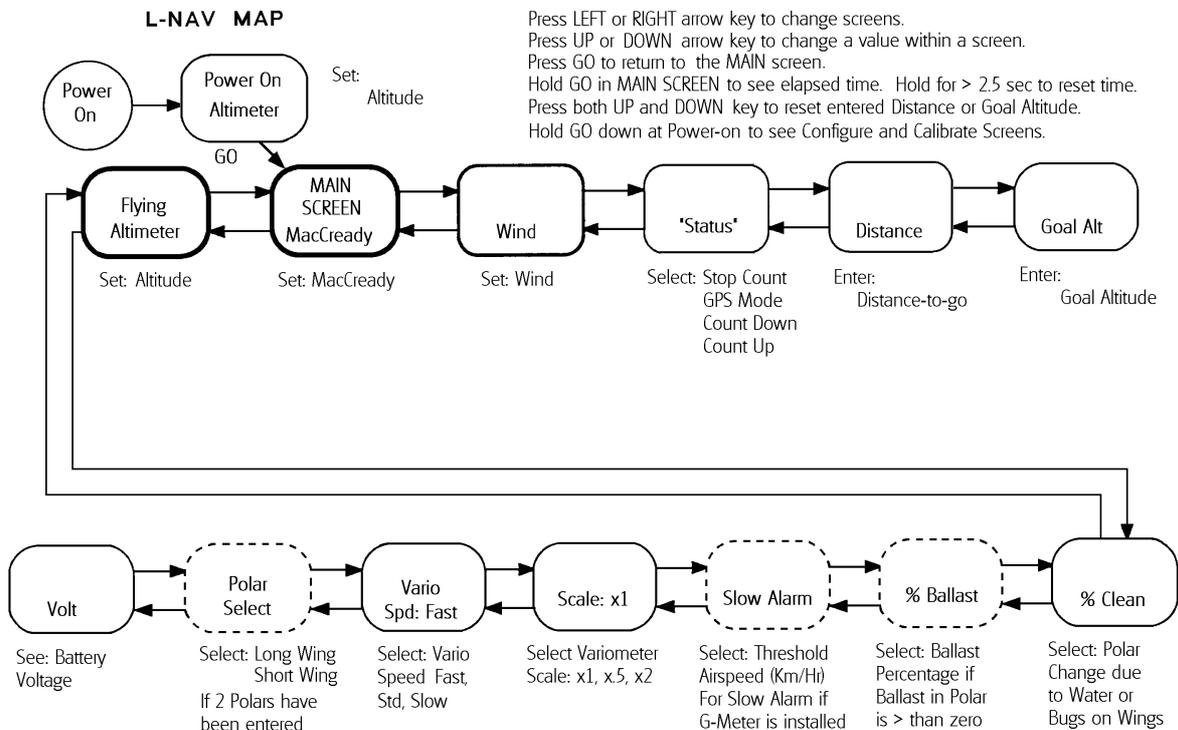

FIGURE 1
5. Referring to **Fig 1** the number of display screen options can seem somewhat daunting at first but fortunately the unit always returns to the default unballasted, clean polar when first switched on. To use it simply as a variometer, merely turn the **ON/OFF/VOLUME** knob clockwise to give a suitable audio volume. You will see '**L-NAV V3.0**' for several seconds, then the Altimeter Setting screen appears. Using the **UP** or **DOWN** arrow keys, just set zero or airfield elevation for QFE or QNH operation as you wish, then press **GO**. This will display the **MAIN SCREEN** and the instrument is ready for use as an audio variometer. Whichever screen is currently being displayed, pressing **GO** always returns you to the **MAIN SCREEN**.